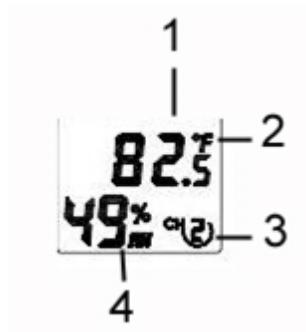

Figure 27
6. Verify the correct channel number (CH) and temperature units of measure (°F vs. °C) are on the display, as shown in Figure 27.